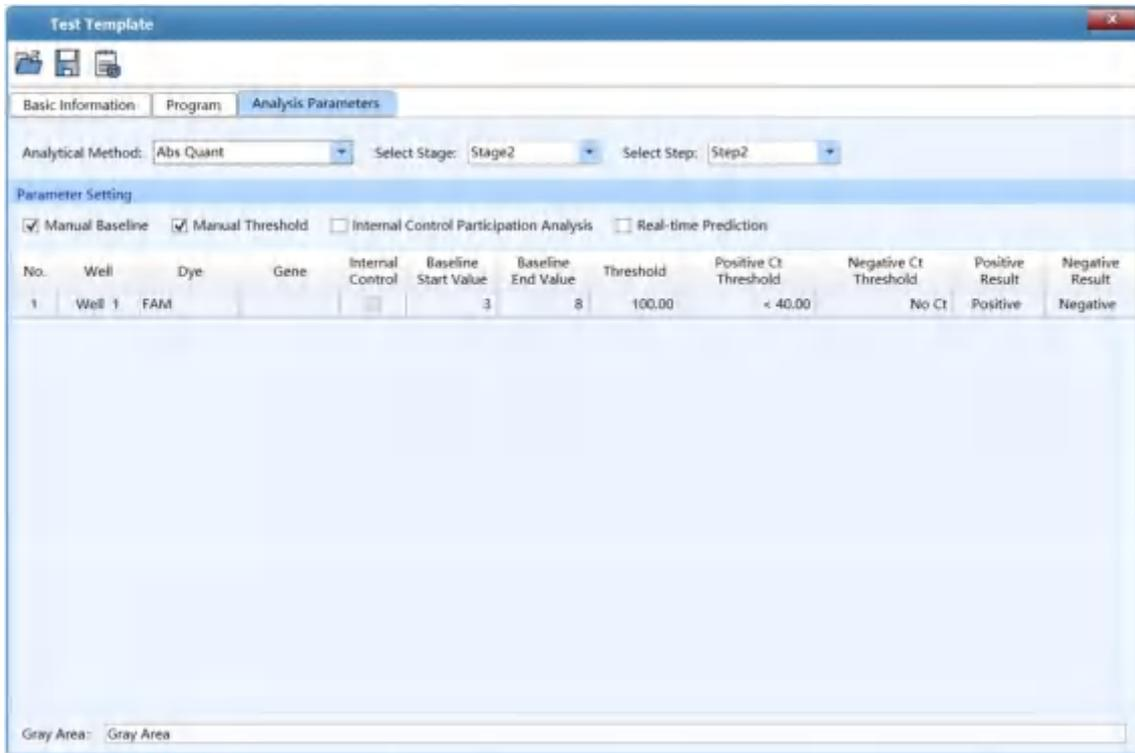

Figure D-2.5c Research Report interface – Analysis Parameters
► **Analysis Parameters** tab: is as shown in figure D-2.5c.